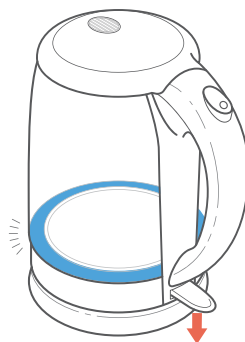

Figure 2.3
4. Press the **On/Off Switch**. The blue indicator light will turn on. [Figure 2.3]